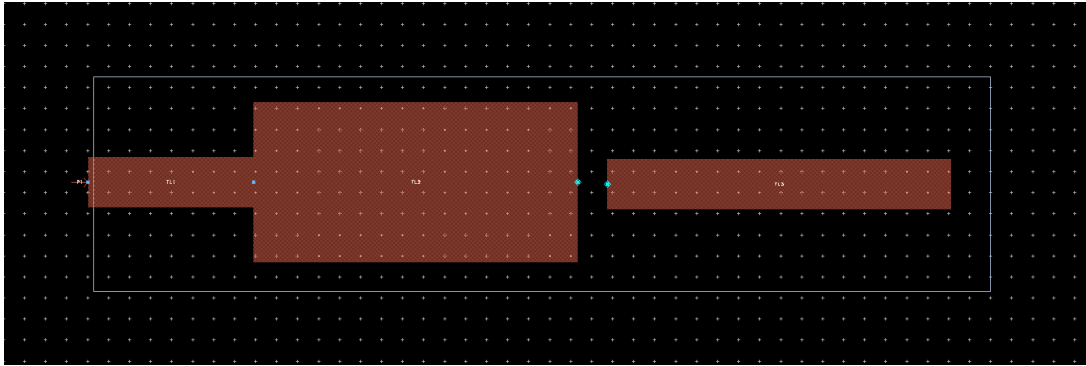

Figure 6: Layout with board outline
4. Now, create the outline of your board by first clicking on the drop down box labeled v,s default:drawing. Click the “Insert Rectangle” button and draw a rectangle around the matching circuit in the Layout window. Be sure that the transmission line at the input of the matching network (on the left of the circuit) is at the edge of the board, as shown below in Figure 6. The rectangle needs to be at least 10 mm wide.